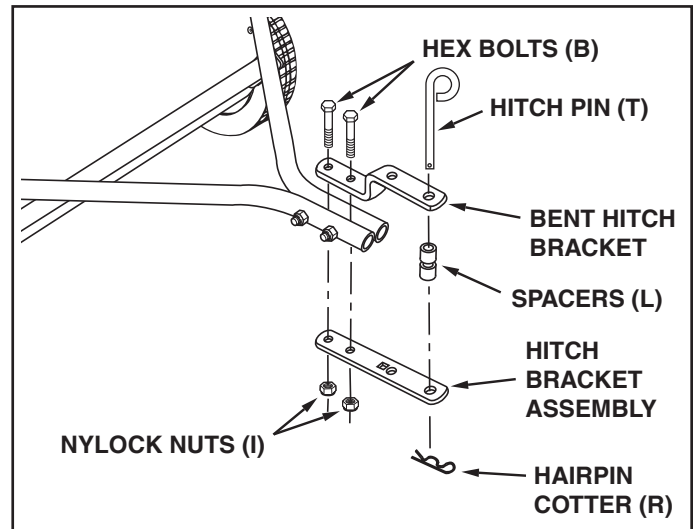

FIGURE 10
STEP 12b: (SEE FIGURE 10)
- If the tractor hitch is 10" or more above the ground, assemble the hitch brackets as shown in figure 10. Insert two hex bolts (B) through the brackets, with the rear hex bolt between the cross bolts in the hitch tubes. Secure the hex bolts (B) with two nylock nuts (I). **Do not tighten yet.**
- Assemble the two spacers (L) onto the hitch pin and secure the pin with the hairpin cotter (R).